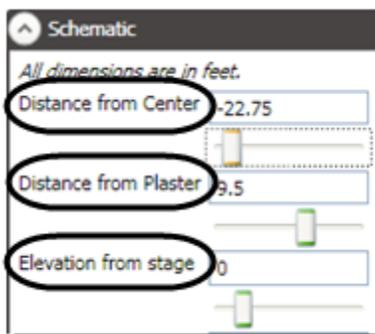

Figure 270
- Now, move the winch into position so that it matches your stage. Use the **Distance from Center**, **Distance from Plaster** and **Elevation from stage** field sliders (Figure 270) to get the position close. You can then fine tune the position by typing in accurate dimensions from your ground plan.